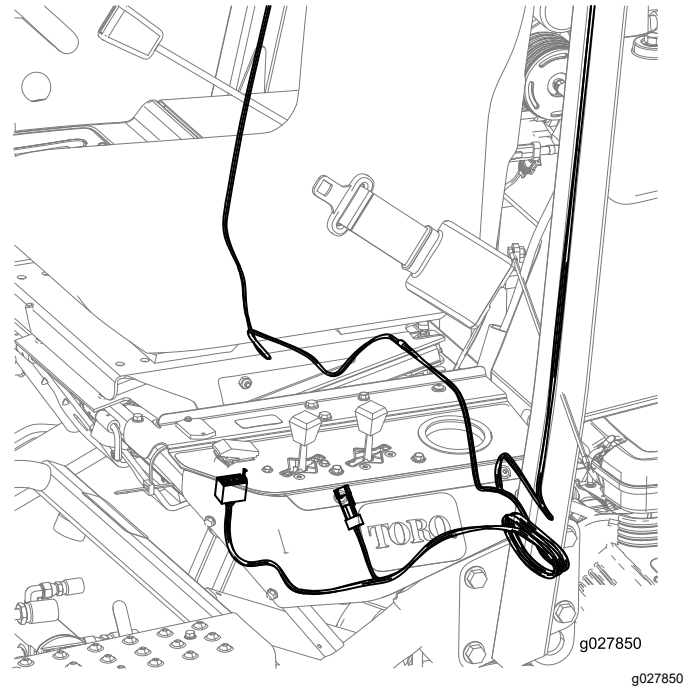
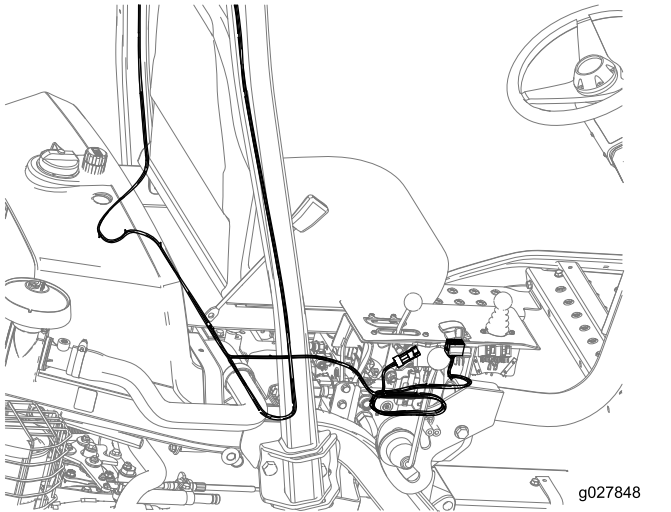
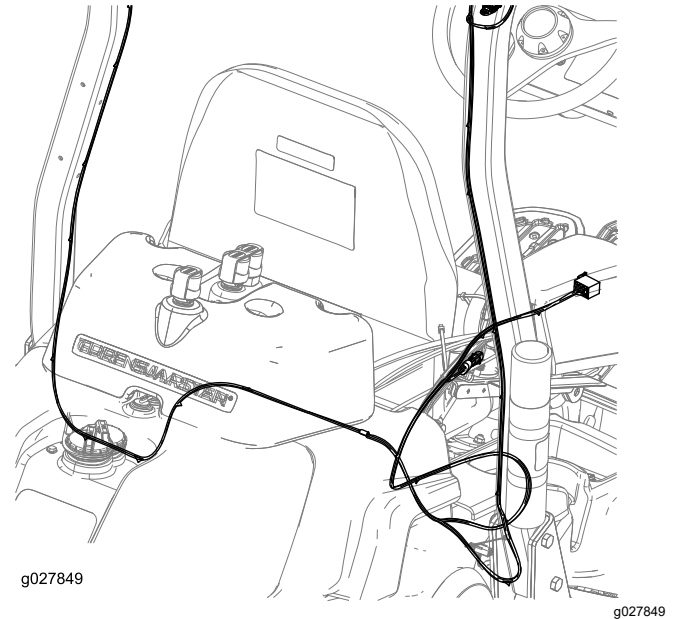

Figure 4
Figure 3
Figure 5
1. Route the wiring harness along the ROPS and under the seat as shown in Figure 3, Figure 4, or Figure 5.